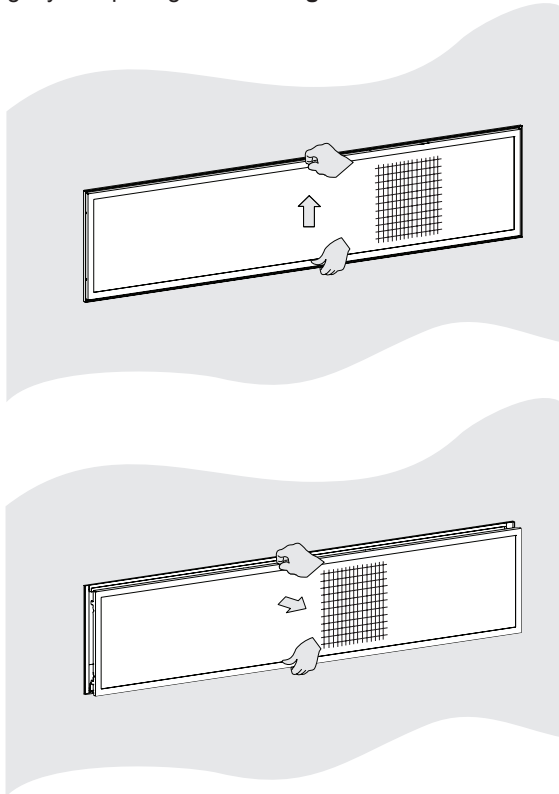

Figure 1
1. Remove barrier screen assembly from fireplace by lifting up slightly and pulling out. **See Figure 1.**